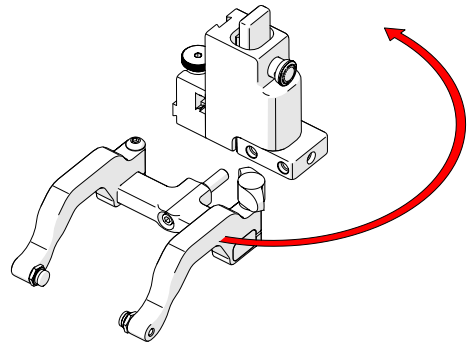

Fig. 163 - Orient to opposite side
2. Position the yoke and arms to the opposite side of the probe holder (Fig. 163).